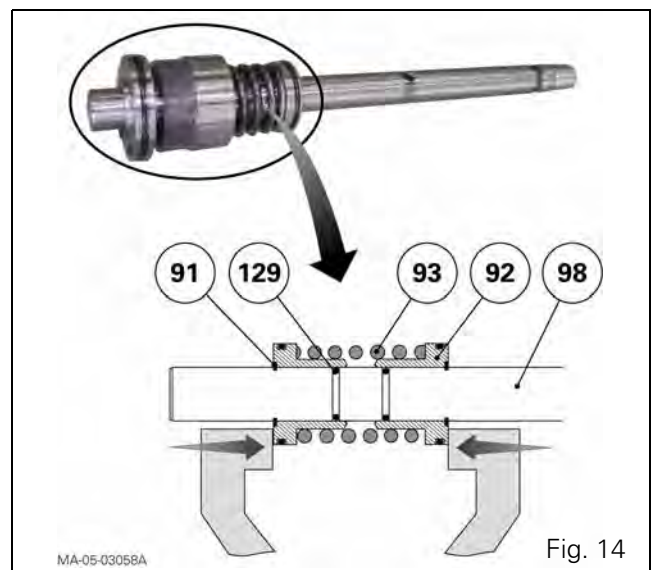

Fig. 14
19. Clamp the rail (98) in a vice equipped with protective jaws (Fig. 14).
20. Tighten the two pistons (92) in the vice to compress the spring.
21. Remove a snap ring (91).
22. Remove the pistons (92) and the spring (93).
23. Replace the seals (129) on the rail (98).